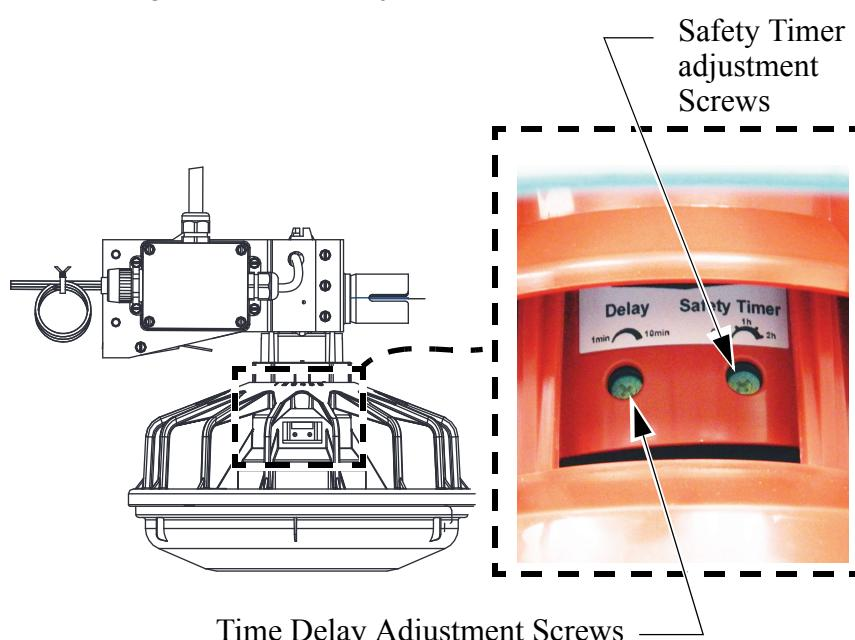

Figure 59. Electronic Switch Adjustment
See Figure 59. The Electron Sensor's sensitivity is preset at the factory. The time delay adjustment is 1 minute to 10 minutes. *The factory setting is 1 minute*. The Sensor also comes with a Safety Timer that can be set to: Off, 1 hour, or 2 hours. The *factory setting* is 2 hours. To get access to the Adjustment Screws:
Step 2: Pull the Sensor Down to expose the Safety Timer and Time Delay Adjustment Screws see figure 59.